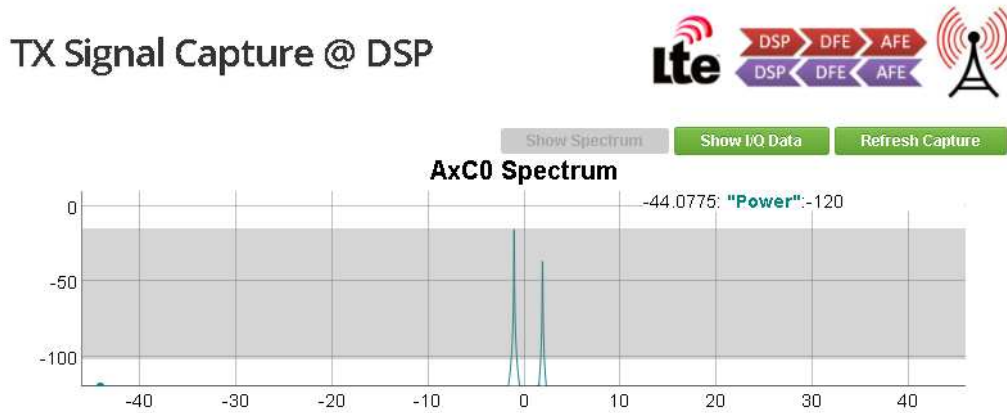
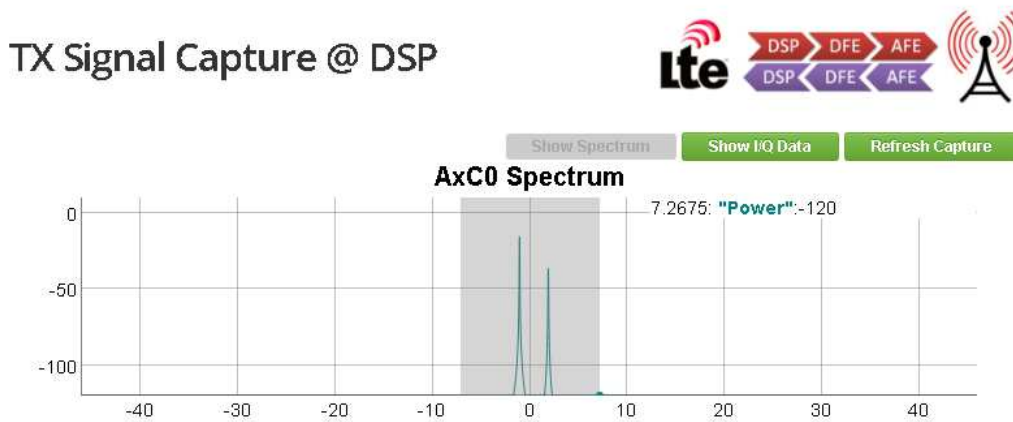

Figure 32. Changing Amplitude Scale on the GUI
Figure 33. Changing Frequency Scale on the GUI
13. Drag the mouse to zoom-in on the graphs both vertically (to change the amplitude scale) and horizontally (to change the frequency scale). To view the zoom-in on the graphs, see Figure 32 and Figure 33.